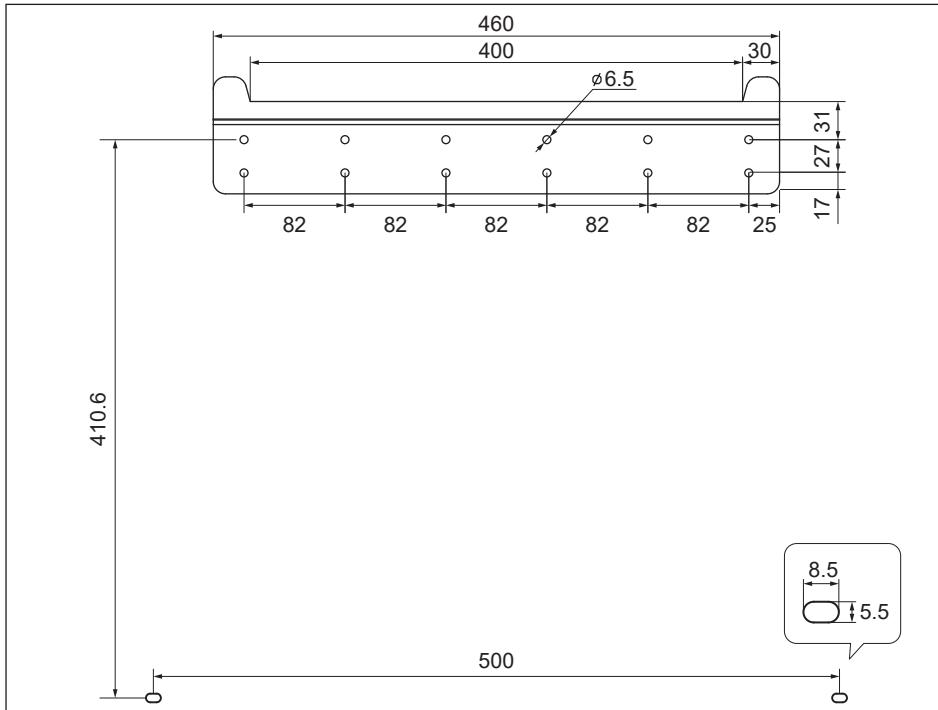

Figure 3-4: Mounting bracket dimensions
Refer to **Figures 3-4** to **Figure 3-7**.
2. Orient the wall bracket (**Figure 3-4**) horizontally (perpendicular to the floor).